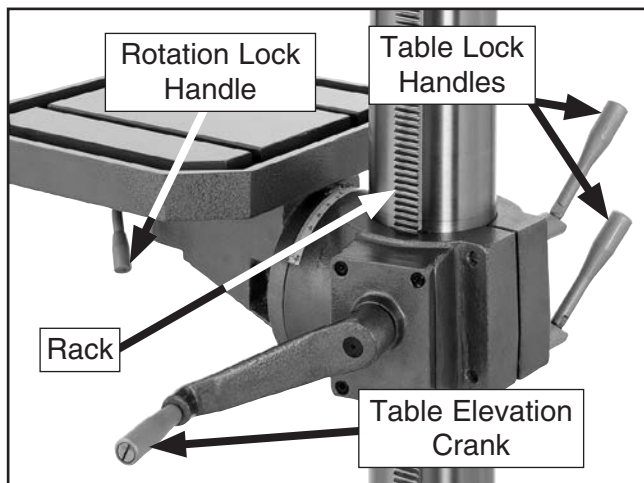

Figure 22. Table adjustment controls.
2. Loosen rotation lock handle shown in **Figure 22**.
2. Loosen table lock handles shown in **Figure 22**.
3. Adjust table height by rotating table elevation crank (see **Figure 22**), then re-tighten table lock handles.
2. Slightly loosen table lock handles (see **Figure 22**).
3. Pivot table to desired location, making sure to guide rack shown in **Figure 22**.